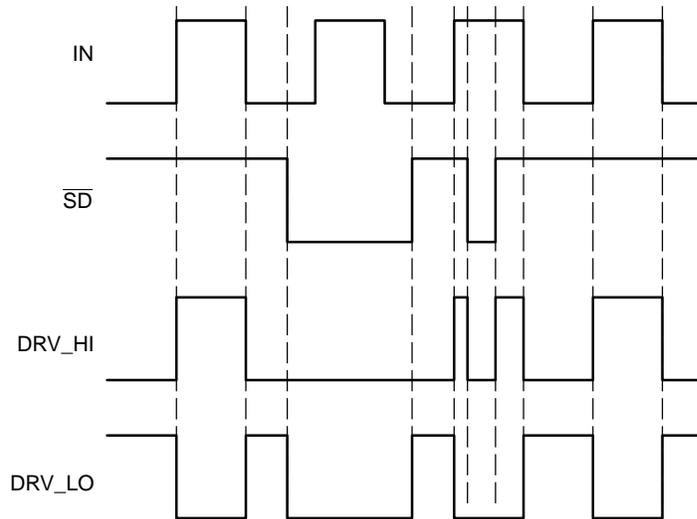
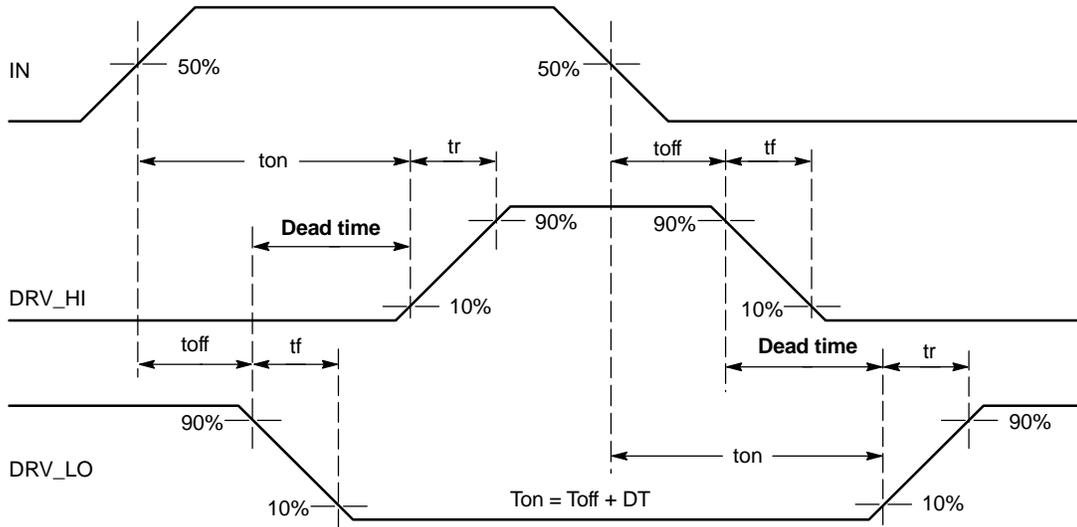
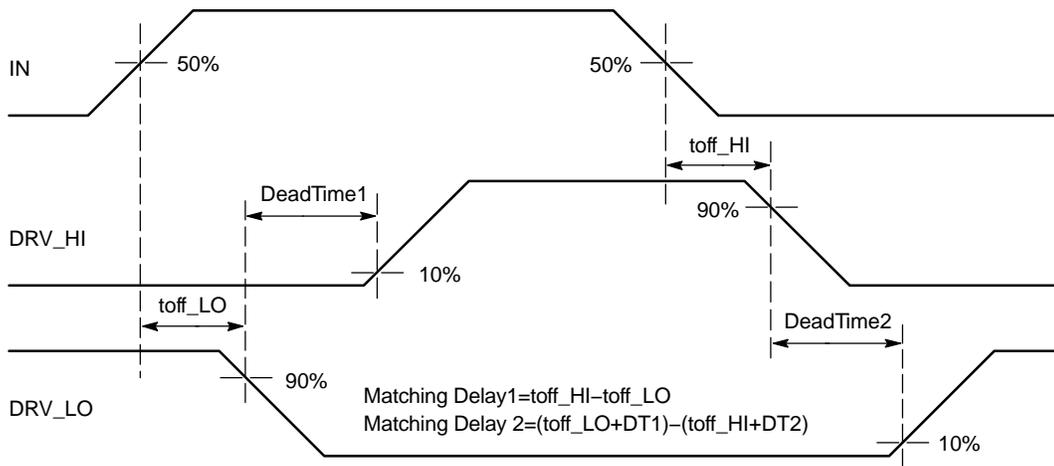

Figure 4. Input/Output Timing Diagram
Figure 5. Timing Definitions
Figure 6. Matching Propagation Delay Definition
5. Timing diagram definition see: Figure 4, Figure 5 and Figure 6.